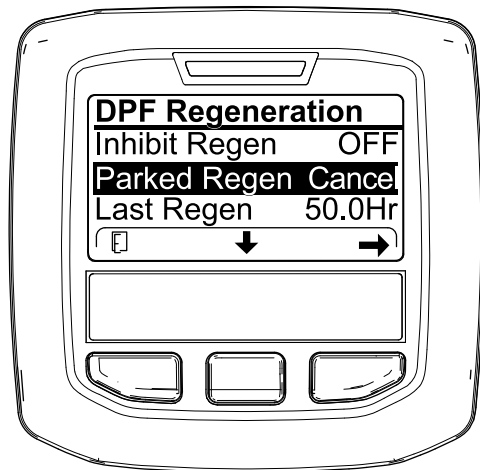
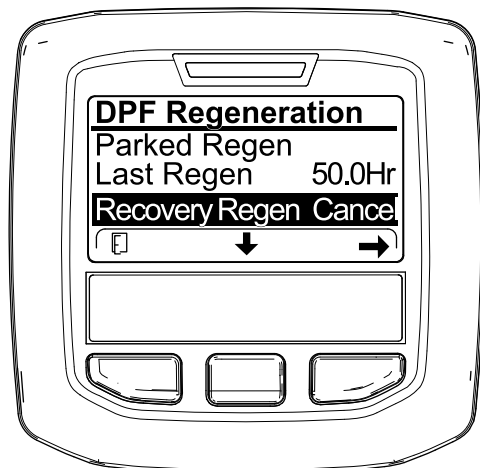

Figure 69
Figure 70
1. Access the DPF Regeneration menu (Figure 69).
2. Press the center button to scroll down to the PARKED REGEN CANCEL (Figure 69) or the RECOVERY REGEN CANCEL option (Figure 70).
3. Press the right button to select the Regen Cancel entry (Figure 69 or Figure 70).